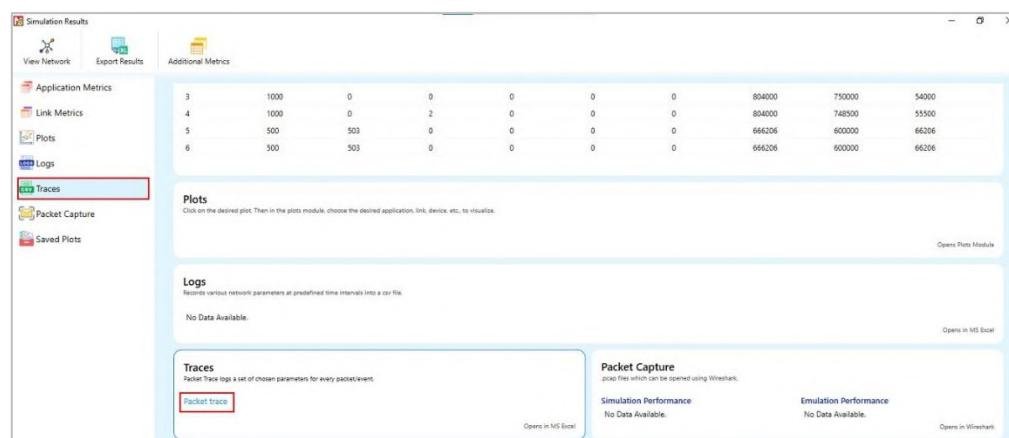

Figure 8-63: Select Event Trace option in results window.
3. Open event trace from the simulation results windows as shown in the below Figure 8-63.